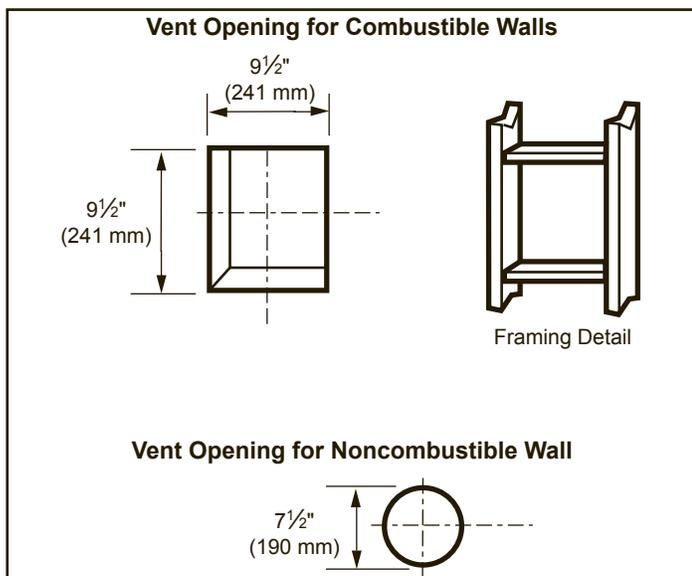

Figure 15 - Locate Vent Opening on Wall
3. Attach vent pipe assembly to the stove. Set stove in front of its permanent location to insure minimum clearances. Mark the wall for a $9\frac{1}{2}$ " (241 mm) square hole (for noncombustible material such as masonry block or concrete, a $7\frac{1}{2}$ " [190 mm] diameter hole is acceptable). Figure 15. The center of the hole should line up with the center line of the horizontal rigid vent pipe. Cut a $9\frac{1}{2}$ " x $9\frac{1}{2}$ " (241 x 241 mm) square hole through combustible exterior wall ($7\frac{1}{2}$ " [190 mm] diameter hole if noncombustible). Frame as necessary. Figure 15
3. Cut a hole in the roof using the locating hole as a center point. (Cover any exposed open vent pipes before cutting hole in roof). The 9½" x 9½" (241 x 241 mm) hole must be measured on the horizontal. Actual length may be larger depending on the pitch of the roof. There must be a 1" minimum clearance from the vent pipe to combustible materials. Frame the opening as shown in Figure 15 on Page 16.